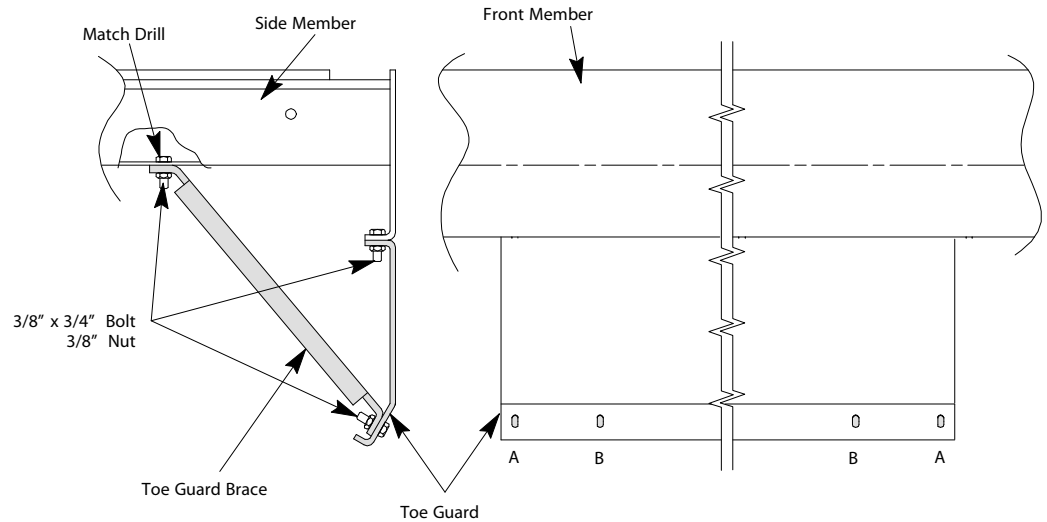

Figure 9 - Rigid Toe Guard Installation
2. Use locations "A" for right and left hand doors, or locations "B" for center opening doors, and mount the bottom of the braces to the toe guard. See Figure 9.